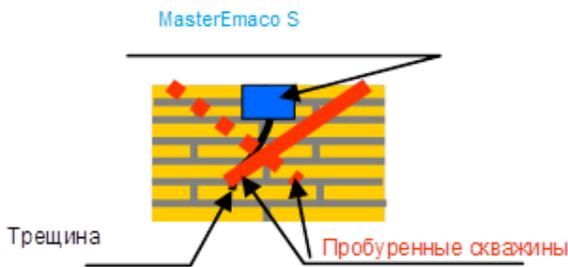

Fig. 1 Sample crack injection procedure
- e. In case of a large opening, preliminary fill the crack with MasterEmaco S mix to prevent leakage of the MasterEmaco A 640 suspension (Fig. 1).